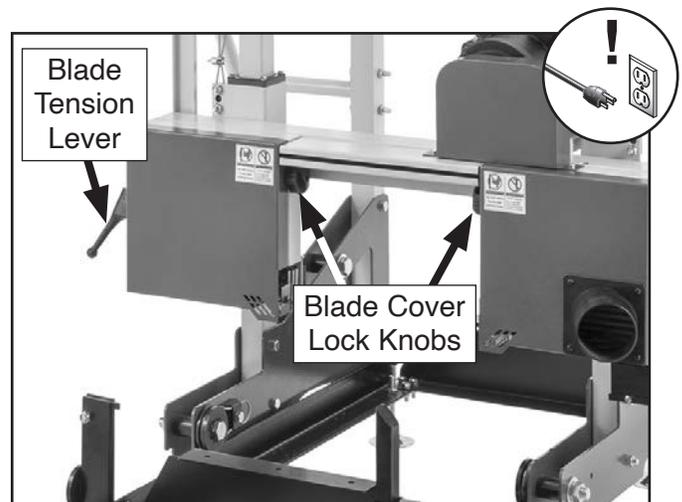

Figure 63. Location of blade tension lever and blade cover lock knobs.
2. Release blade tension by lifting lever or turning blade tension lever counterclockwise (see **Figure 63**).
3. Turn blade cover lock knobs clockwise to open blade covers (see **Figure 63**).